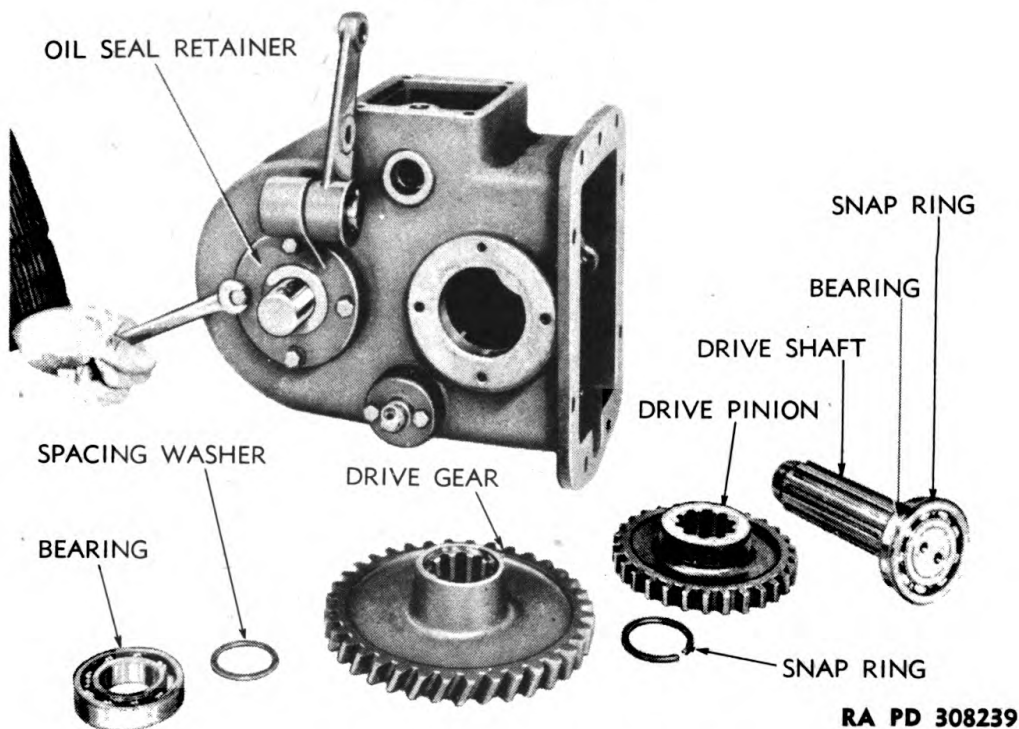

Figure 137 – Removing Oil Seal Retainer
c. Remove Driven Shaft and Gears. Remove front and rear driven shaft bearing retainers by removing four cap screws from each (fig. 137). Using brass drift bar, drive shaft toward rear of case until bearings are driven out of case. Hold gears flat against rear of case, and drive shaft out of front bearing, spacer washer, and gears. Lift these parts from case as they are freed by shaft. Press rear bearing from shaft and remove snap ring. Inspect oil seal in retainer. If it is to be replaced, drive it out of retainer with punch and hammer. If removed, a new seal must be installed as old one will be spoiled in removal.
b. Install Driven Shaft and Gears. Press bearing onto long end of shaft against shoulder and install snap ring in groove in splines of shaft (fig. 138). Insert splined end of shaft through rear side of case and slide 35-toothed reverse gear, then 38-toothed gear, onto shaft. Insert shaft on through case, tapping bearing on shaft into bore in case. Press oil seal into oil seal retainer with lip of seal facing inner side of retainer. Using new gasket, slide retainer over shaft and secure to case with four cap screws with lock washers (fig. 137). Slide spacing washer onto front end of shaft, then drive or press front bearing onto shaft and into case. Use new gasket and install bearing cap with four cap screws with lock washers.
c. Install Drive Shaft and Gears. Install snap ring on front bearing (groove in outer race). Press this bearing onto end of drive shaft that has two holes in it (fig. 137). Install end washer on end of shaft with two cap screws and nut lock (fig. 135). Insert other end of shaft through front of case and slide 29-toothed drive pinion (shifter collar end first) onto shaft. Install snap ring in groove in splines of shaft, then slide 36-toothed drive gear (long end of hub first) onto shaft against snap ring. Tap front bearing into case, then slide spacing washer on rear end of shaft and install rear bearing in case over end of shaft. Bend ends of nut lock against sides of cap screw heads (fig. 135), then install bearing cover with new gasket on front of case with four cap screws with lock washers (fig. 134).